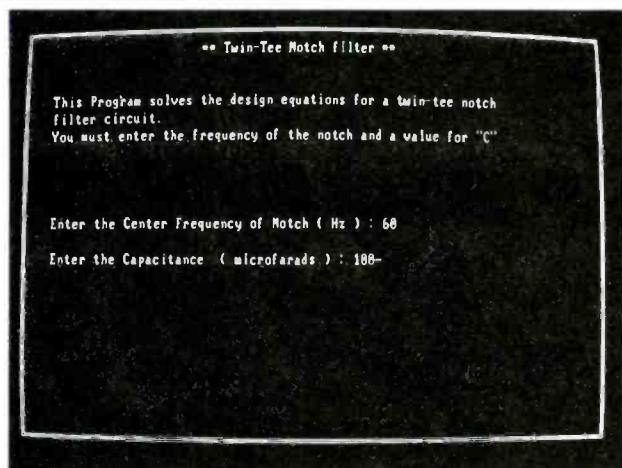

Fig. 6—This menu lets you design an active Tee-Notch filter. You select the center frequency and the main capacitor value.
or 120-Hz hum from a tape recording, we would select item 4, *Filter Designs*, from the main menu, which would eventually lead us to the input screen for a Twin-Tee Notch Filter (Fig. 6). As shown in Fig. 6, in response to screen prompts, we entered the desired center frequency of 60 Hz, and the main capacitance value of 100  $\mu\text{F}$ , because 100- $\mu\text{F}$  capacitors are easy to locate.